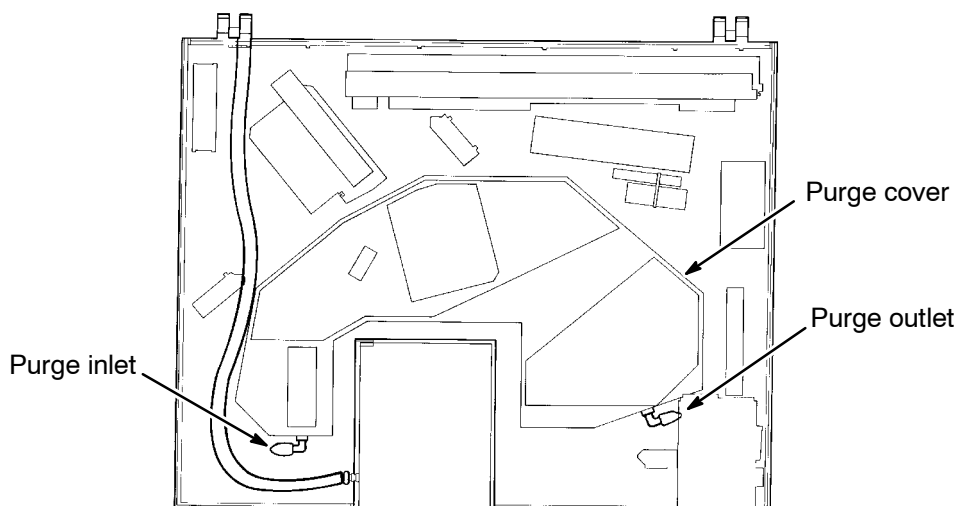

Figure 4-10 Purging the Spectrum RXI
- 2 Use Figure 4-10 to help you locate the following components:
- 5 Arrange the tubing alongside the sample compartment purge tubing, which is shown in Figure 4-10. An exit is provided for it at the rear of the instrument, next to the exit for the sample compartment tubing.